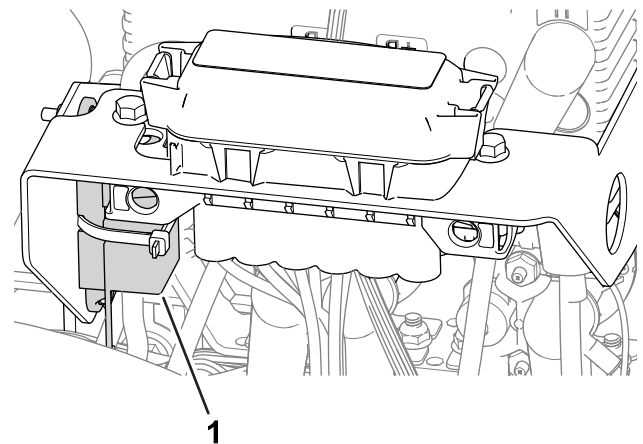

Figure 59
- The fuse for the left wheel motor (60 A) is located under the cover on the left side of the machine, near the reel-drive-circuit fuses (Figure 59).